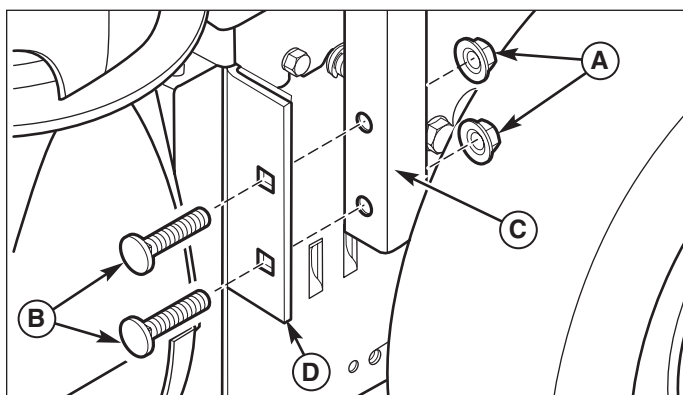

Figure 15. Offset Tube (Lower) Removal
10. Remove two 5/16-18 KEPS hex nuts (A, Figure 15), and two 5/16-18 x 1-1/2 carriage bolts (B) securing the offset tube (C) to the tube support bracket (D).
16. Attach chute and offset tube previously removed (Figure 15 and 16). Tighten all KEPS nuts to 11 lb-ft (15 Nm).